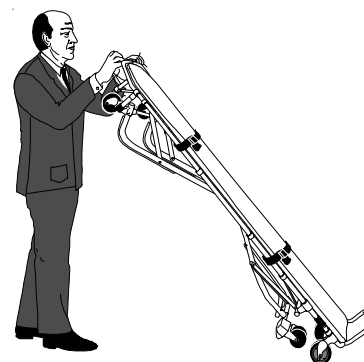

Figure 7 - Rolling Cot in Confined Areas
4. Stand at **operator end** of cot, grasp corners of main frame, tilt cot onto loading wheels, and roll (Figure 7).